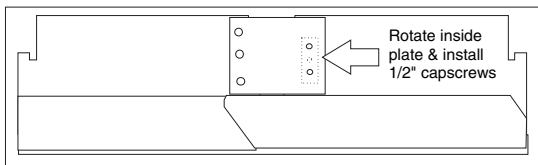

Figure 85.
- 3) Loosen nut on cover plate of left inside upper screed frame and rotate plate 90° as shown in Figure 85.